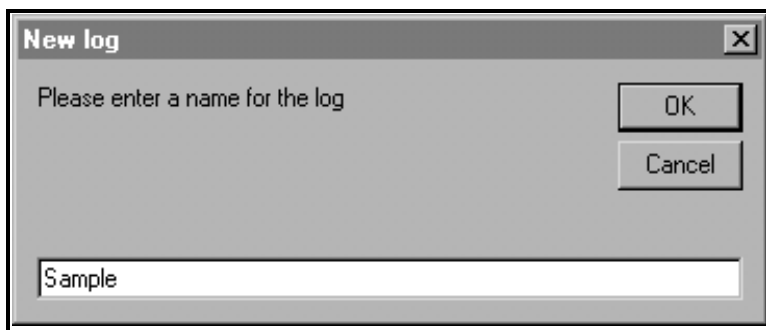

Figure 79: Log Name Dialog Box
5. Enter a log *file name* (“*Sample*” in this case) in the dialog box shown in Figure 79. Click on the [OK] option button.